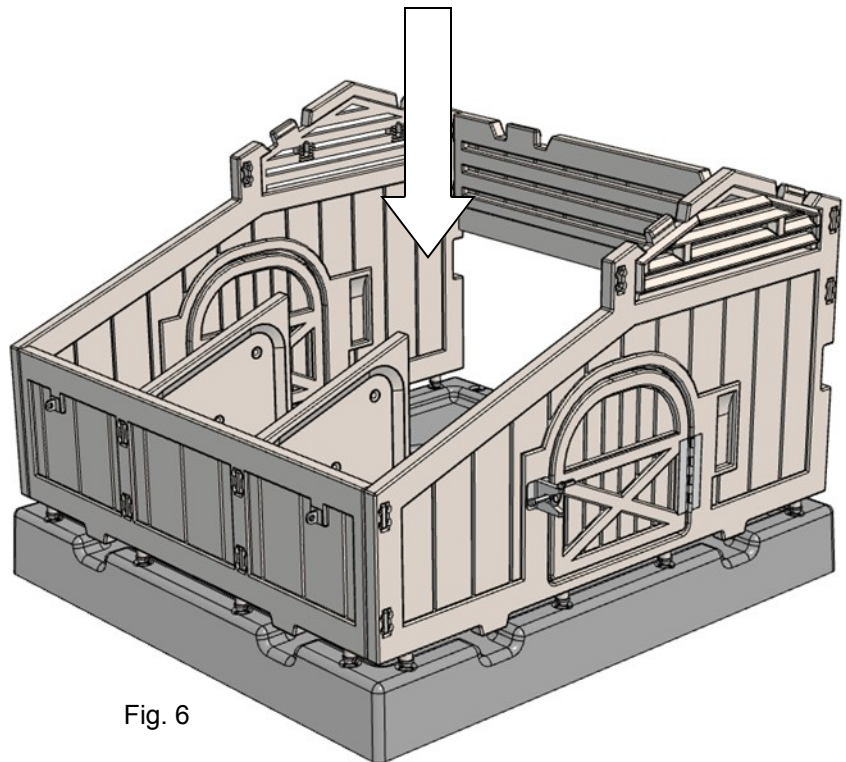

Fig. 6
Step 6: Assemble the four walls to the Coop Base by aligning the pegs on the bottom of the walls with the corresponding holes in the Coop Base (Fig. 6). Please note that the Coop Base is not square and measures 40" by 37". Align the Front Wall with the 40" side of the Coop Base and all the pegs will line up.